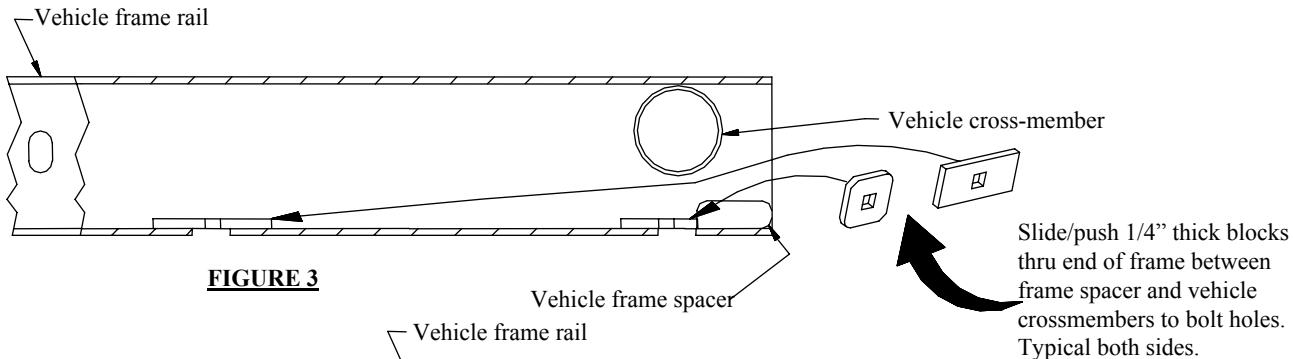
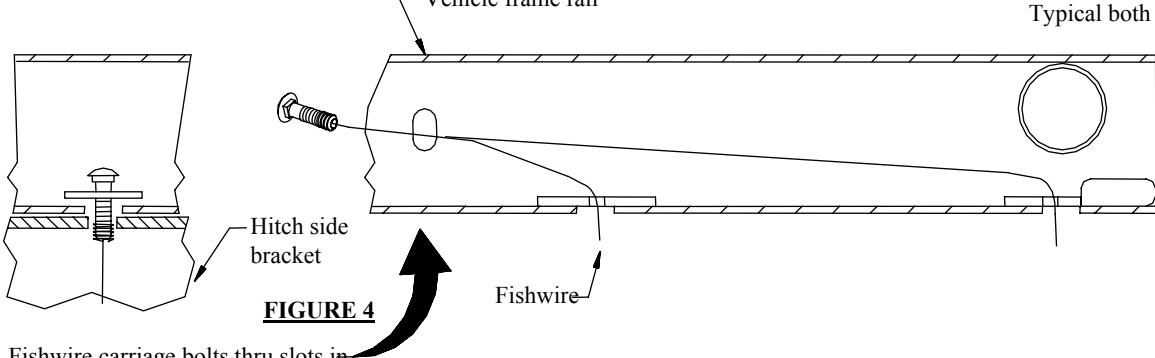

FIGURE 3
FIGURE 4
3. Slide/push 1/4" x 1-1/2" X 3" blocks and 1/4" X 2" X 2" blocks thru end of frame between frame spacer and vehicle crossmember and align with holes in hitch side bracket, (See Figure 3.) Fishwire carriage bolts thru slot in frame rail and down thru blocks and side brackets, See Figure 4. Install fasteners as shown. Note: On some models it may be possible to install rearmost carriage bolt thru end of vehicle crossmember and down thru block and frame rail into hitch side brackets.